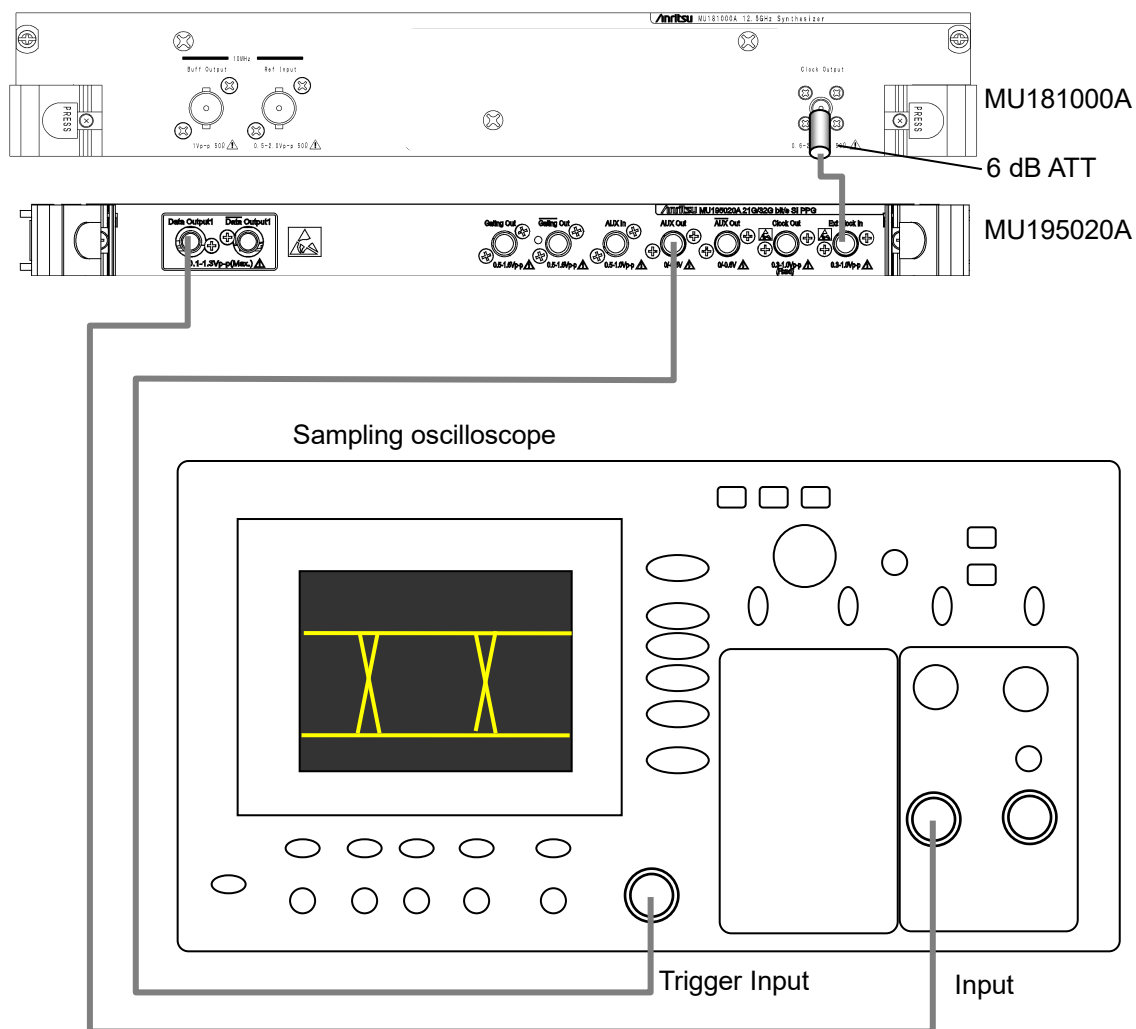

Figure 8.3.2-1 Connection diagram for waveform test
6. Connect the measuring instrument cables as shown in Figure 8.3.2-1.
8. After warming up the instruments, enable the MP1900A signal output (ON) and output signals.